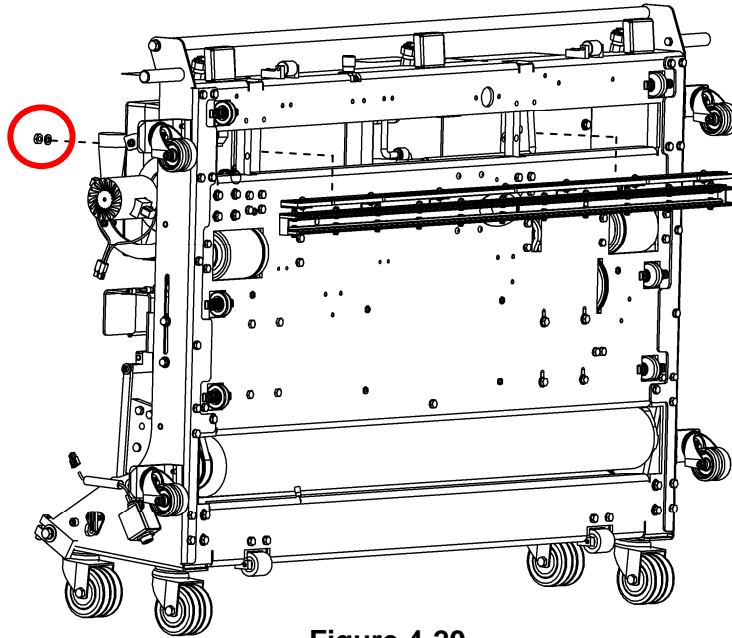

Figure 4-20
3. Loosen the screw on the vacuum hose clamp and remove the vacuum hose from the vacuum head. Remove the two nuts and washers to release the vacuum head from the pivot arms, and remove the vacuum head from the **underside** of the machine as shown in Figure 4-20.